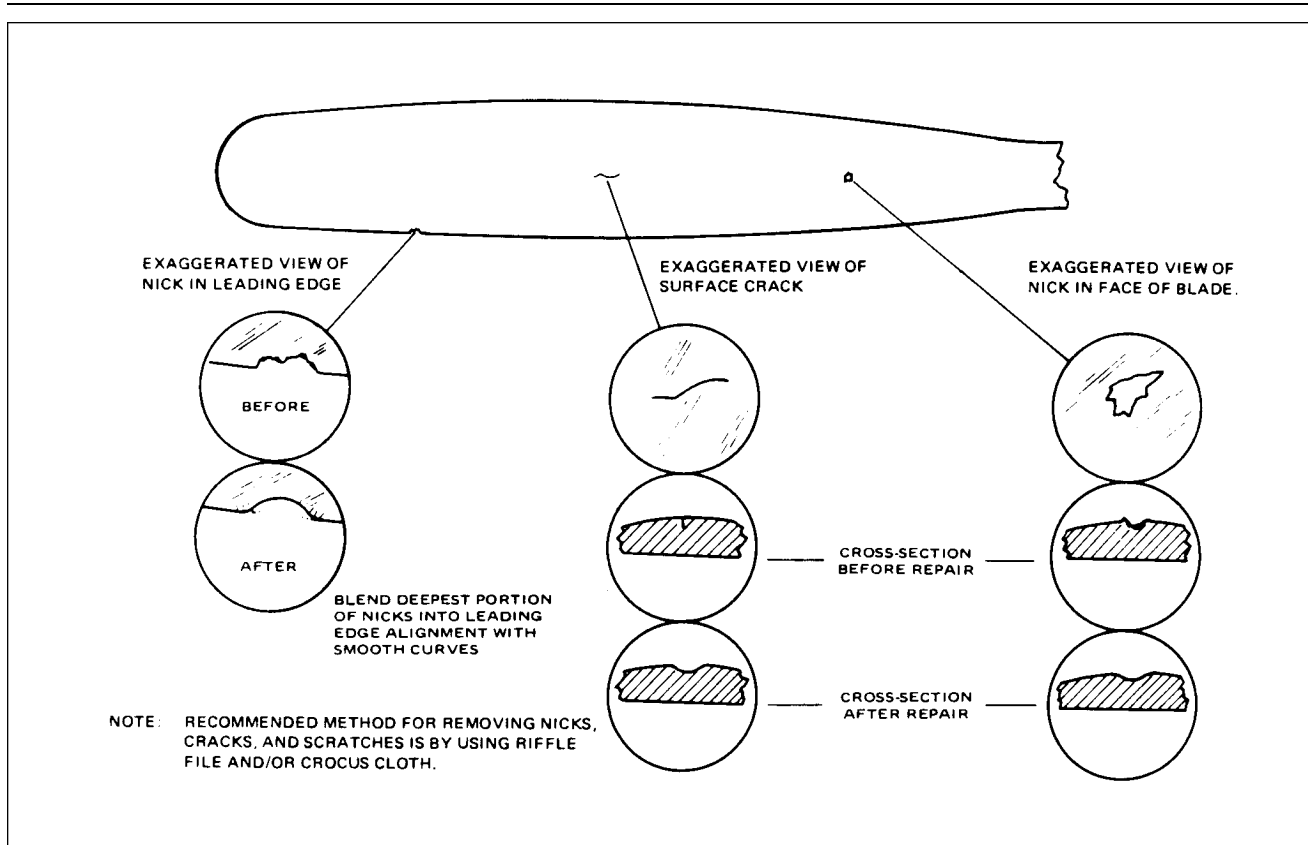

Figure 8-4. Propeller Blade Minor Repair
- g. Inspect the blades for damage or cracks. Nicks in the leading edges of blades should be filed out and all edges rounded, as cracks sometimes start from such places. Use fine emery cloth for finishing. (Refer to Figure 8-4 for propeller blade care.)